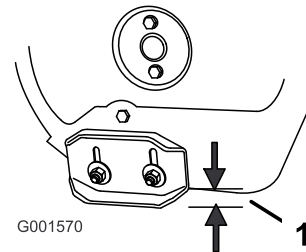

Figure 39
2. Loosen the nuts that secure both skids to the auger sides until the skids slide up and down easily (Figure 39).